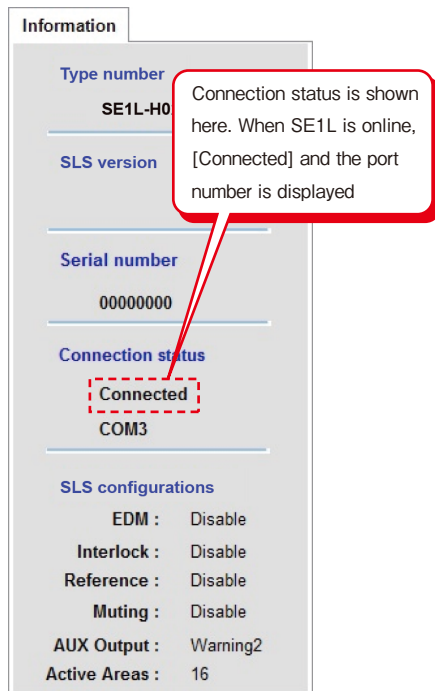

Figure 7-25. Connected
- Connection status is shown at the information tab. When the SE1L is successfully connected, [Connected] is shown with port number connecting the SE1L as shown in figure 7-25.